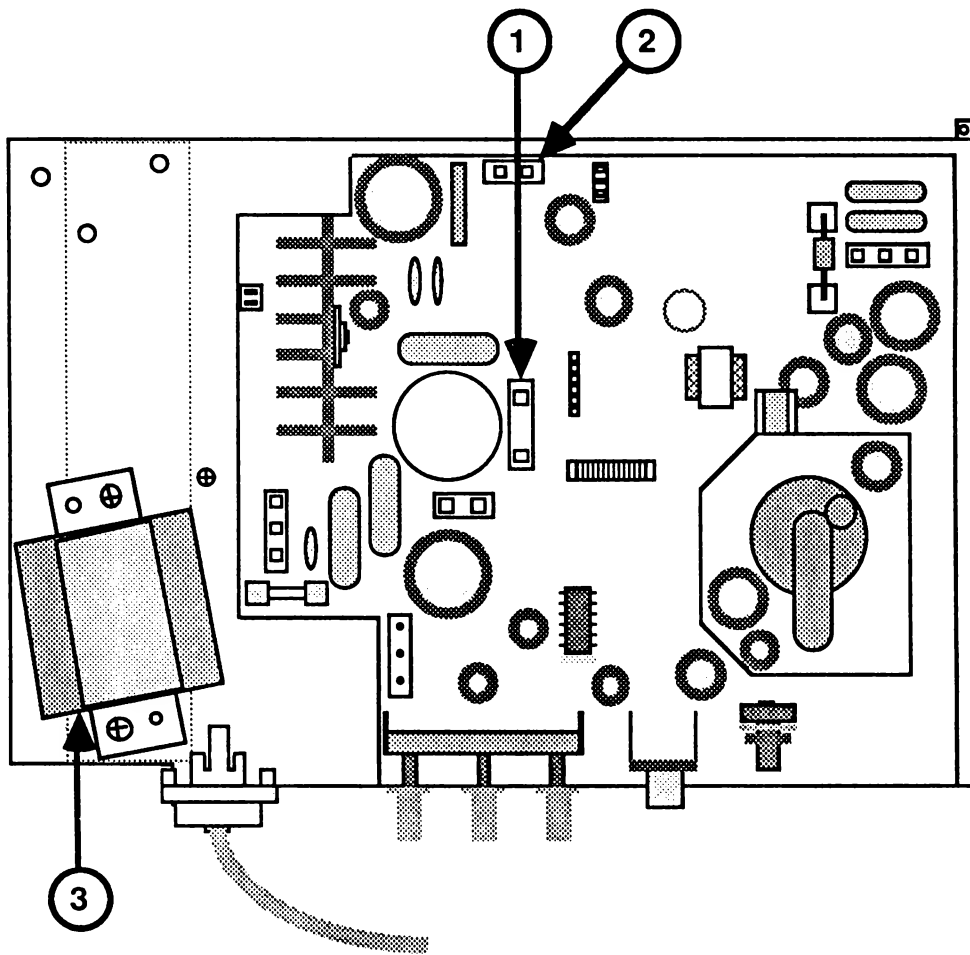

FIGURE 10
4. Disconnect the black and white wires' connector (P1) (Figure 10, #1). (Do not press hard on the board.)
5. Disconnect the blue wires' connector (P2) (Figure 10, #2).
6. Remove the mounting screws for the transformer (Figure 10, #3).
1. Connect P1 at J1 (Figure 10, #1).
2. Connect P2 at J2 (Figure 10, #2).